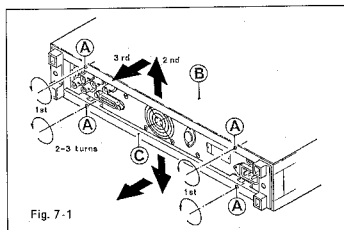

Fig. 7-1
- Loosen the cross-slotted screws (A) (Fig. 7-1) at the rear
- Pull top cover (B) as shown in figure 7-1.
- The procedure to remove the bottom cover (C) is the same as above.